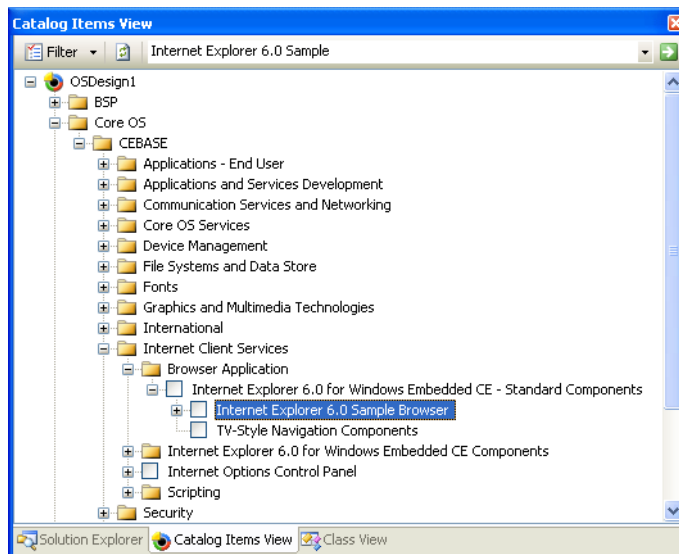

Figure 1-10 Including the Internet Explorer 6.0 Sample Browser catalog item in an OS design
3. Verify that the search locates the Internet Explorer 6.0 Sample Browser catalog item. Select the corresponding check box to include this catalog item in the OS design, as illustrated in Figure 1-10.